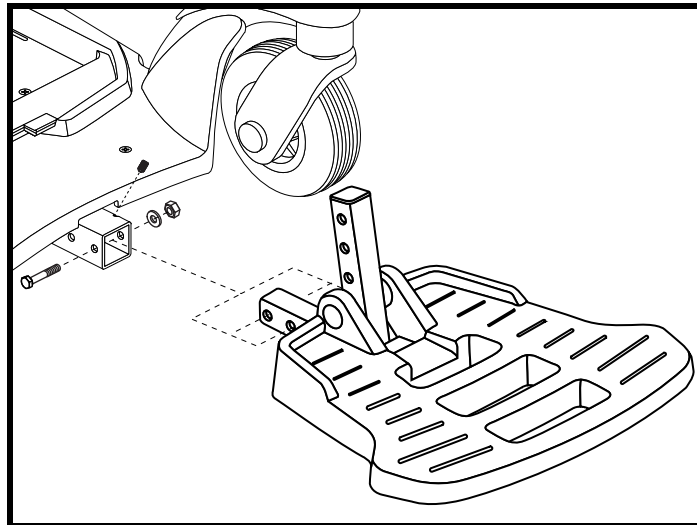

Figure 14. Foot Platform Depth
1. Remove the hardware from the foot platform bracket. See **figure 14**.